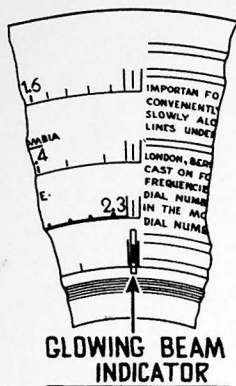

Fig. 4—Dial Calibration
**DIAL CALIBRATION**—In order to adjust this receiver correctly, the dial must be aligned to track properly with the tuning condenser. To do this rotate the tuning control to the extreme counter-clockwise position (maximum capacity). Loosen the set screw of the dial hub, then turn dial until the glowing indicator is centered between the first and second index lines of dial scale (see Fig. 4). Now tighten the dial hub set screw in this position.